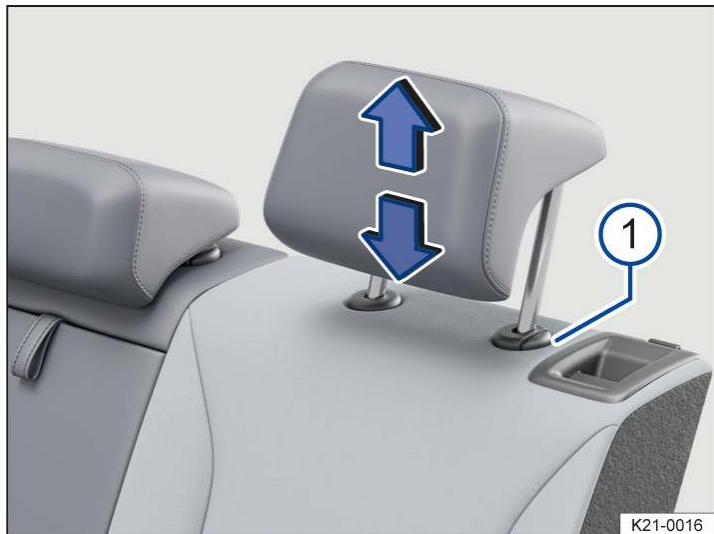

Fig. 1 Adjusting a rear head restraint (illustration).
1. While pressing the button → *Fig. 1* (1) if necessary, push the head restraint up or down in the direction of the arrows.